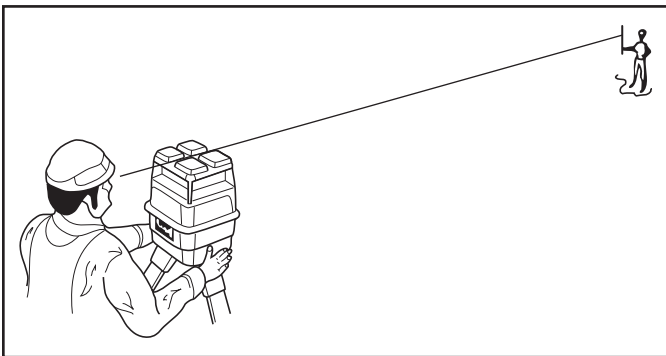

Figure 27. Sight Over Rotating Laser.
- Roughly align one of the axis to the grade stakes by sighting over the top of the Rotating Laser (Refer to **Figure 27**).